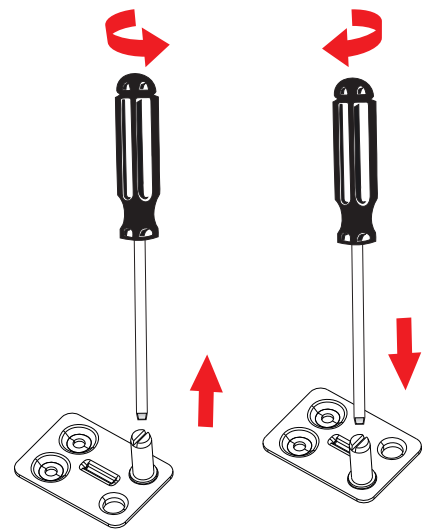

Fig. 12
- ▶ Use a slotted screwdriver to remove the upper hinge pins (Fig. 12) and screw the pins back into the holes on the opposing side.